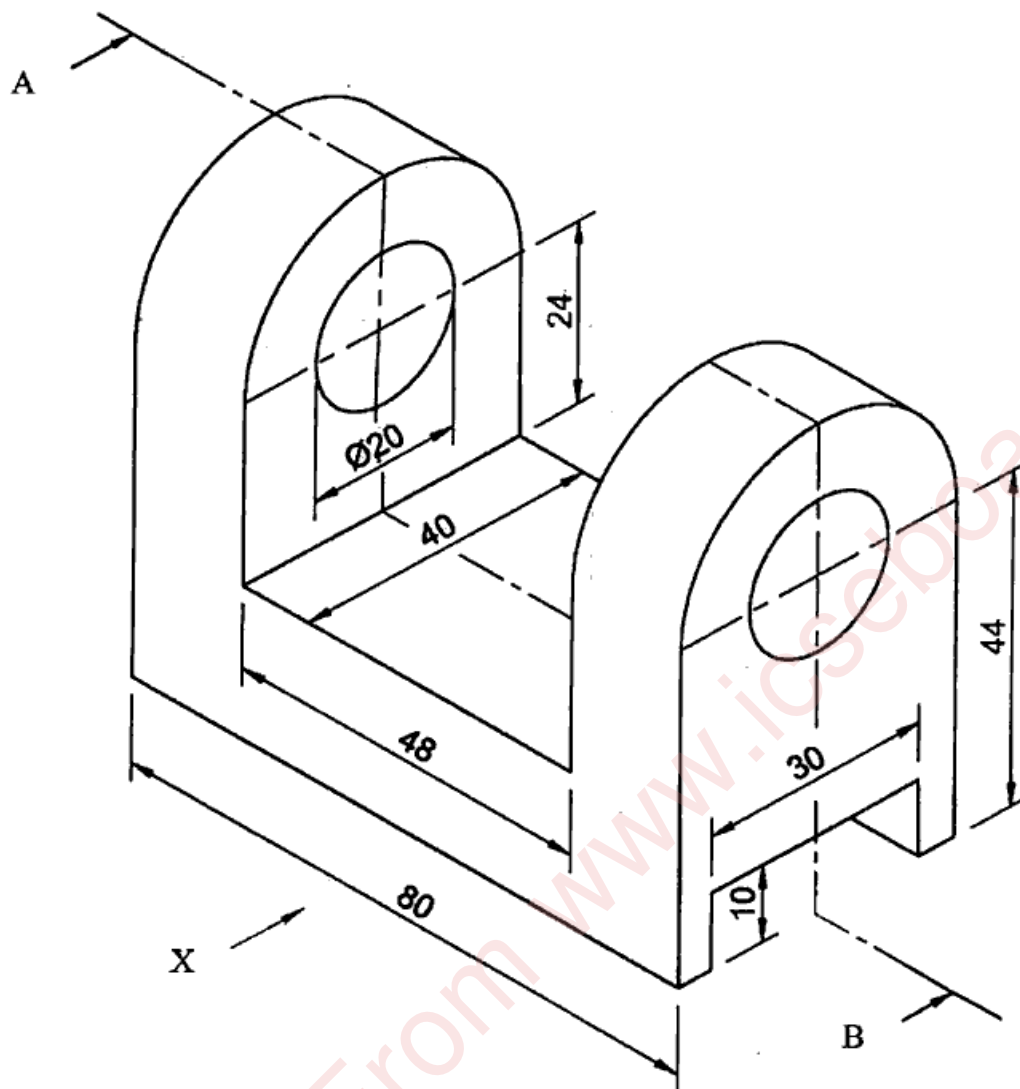

Figure 4
- (ii) **Figure 4** given below shows the machine block. Draw Sectional Front View (along A-B) and Top View by using first or third angle method of projection. [20]